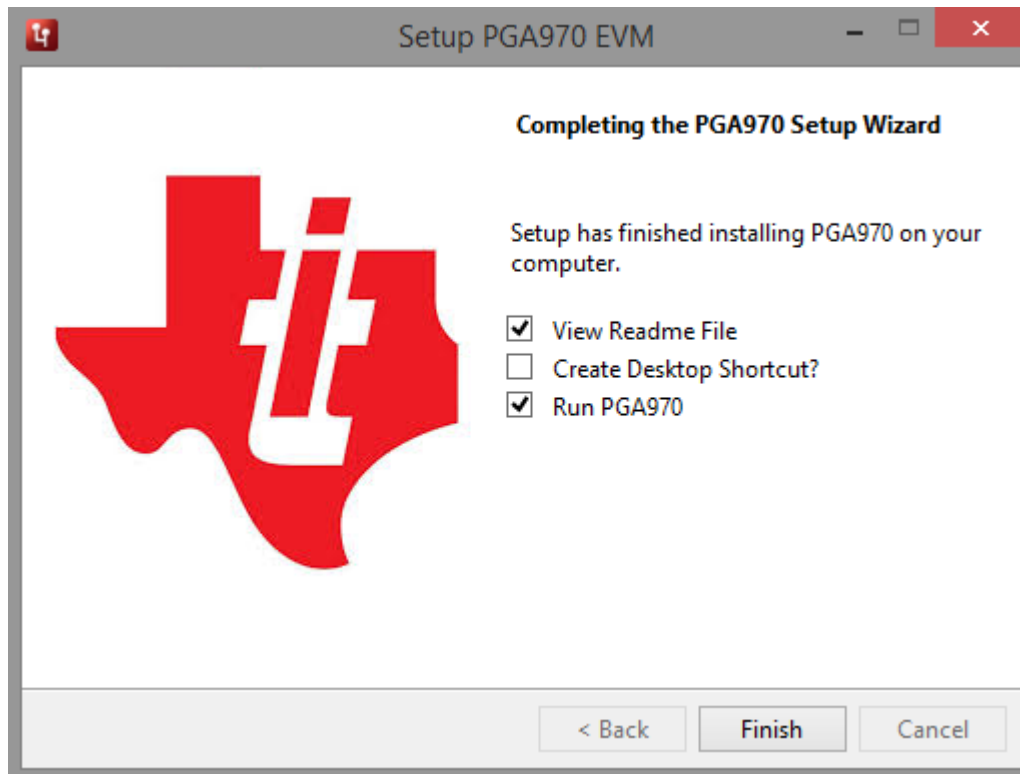

Figure 1-18. Installation Complete
15. The screen as shown in Figure 1-18 appears and denotes the end of the PGA970 GUI installation.